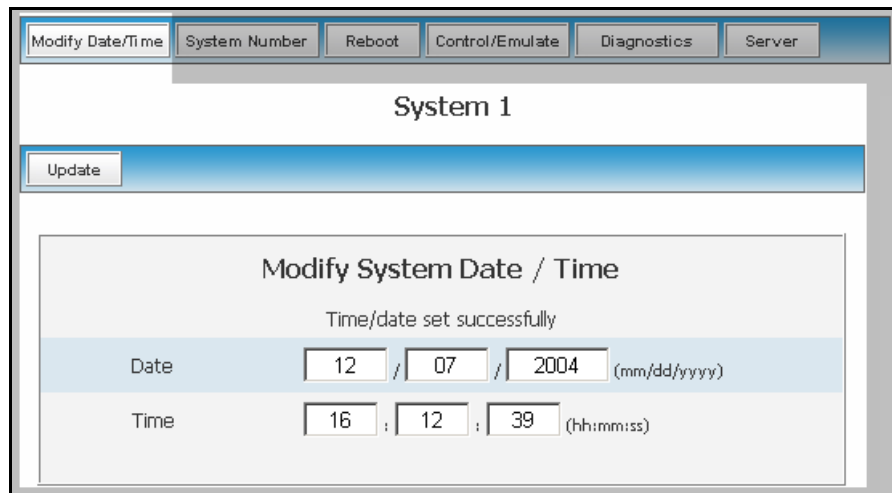

FIG. 43 Modify System/Date dialog
3. Click the **Modify Date/Time** button to open the Modify System Date/Time dialog (FIG. 43). This dialog shows the current Date and Time settings for the target Master.